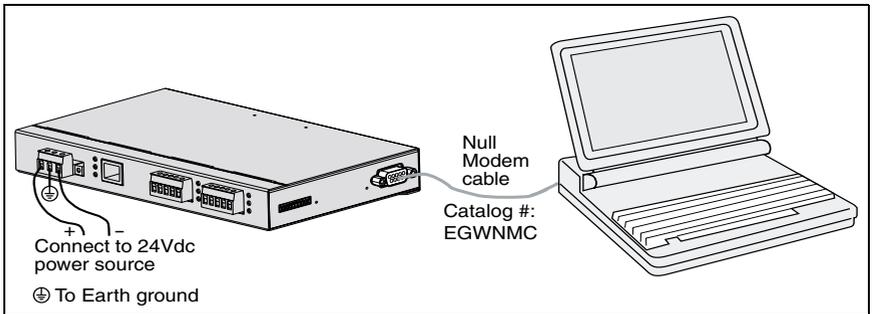

Figure 3–8: Connecting PC to EGX200 using Null Modem cable
1. Attach a null modem cable between the RS-232 COM port (COM 2) of the EGX200 and a Microsoft Windows-based PC, as shown in Figure 3–8.